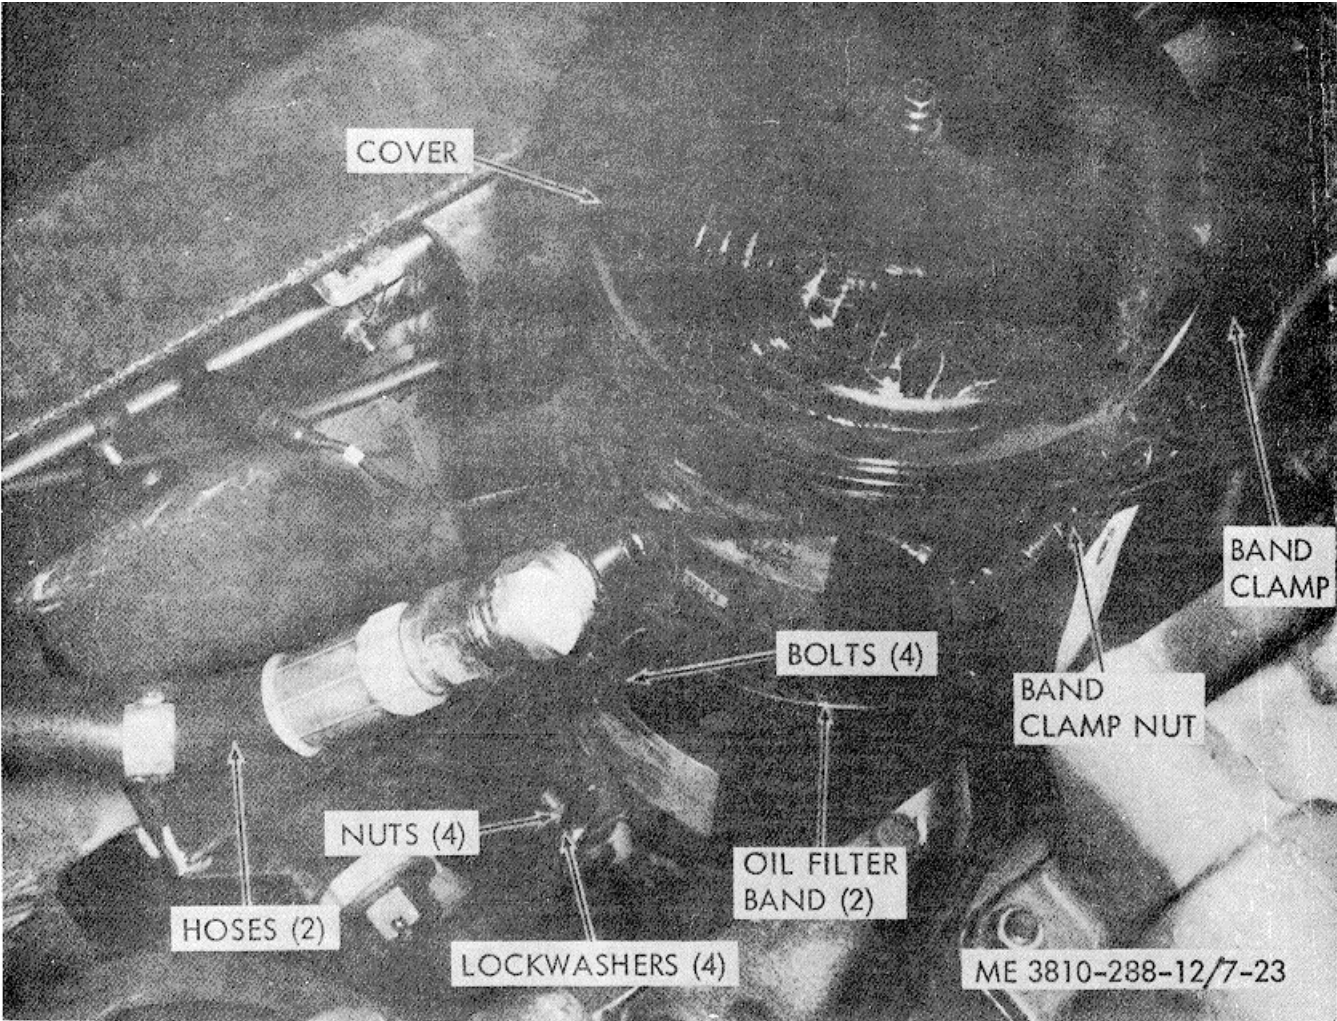

Figure 7-23. Oil filter, service and replacement.
(1) Service. Refer to figure 7-26 and remove access cover (37) behind the engine cowling. Drain the oil in the oil filter into a suitable container. Refer to figure 7-23 and loosen the band clamp nut and remove the band clamp, cover, and filter element. Install a new filter element and fill the oil filter with oil to within 1/4 inches of the top. Replace the cover and band clamp and tighten the band clamp nut. Run the engine until the oil has warmed to normal operating temperature and check for leaks.